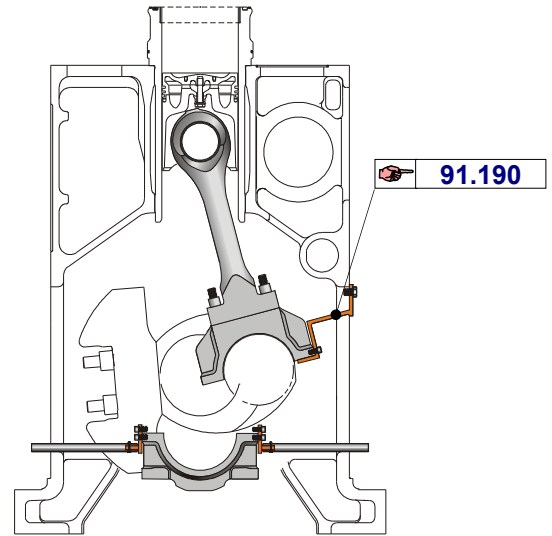

Fig. 4 Installing of bracket
8. Mount bracket on engine block as shown in fig 4.